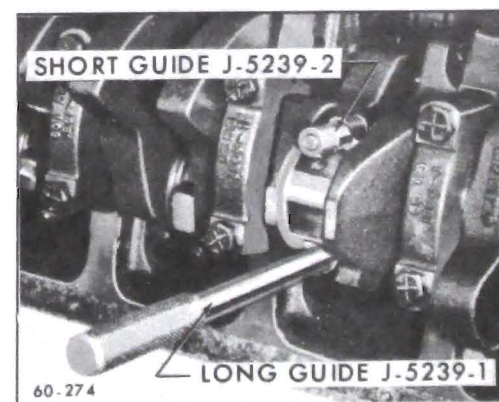

Figure 60-137--Connecting Rod Bolt Guides Installed
4. Remove cap and bearing shell from 1 connecting rod. Install connecting rod bolt guides on the bolts to hold the upper half of the bearing shell in place. See Figure 60-137.